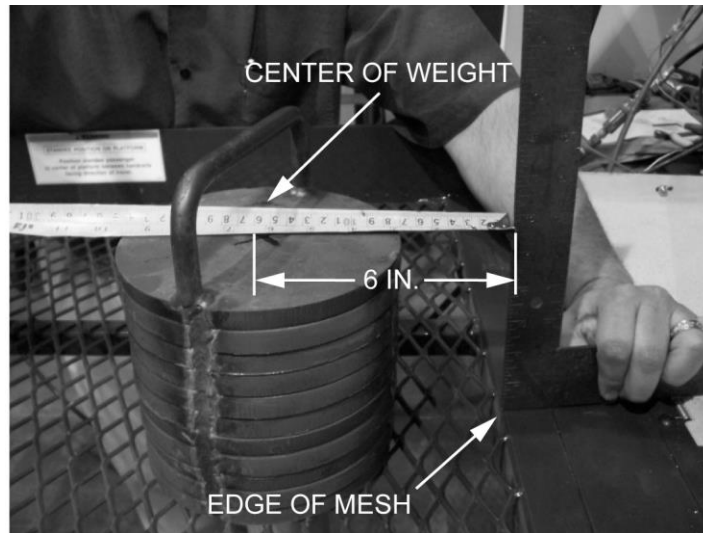

FIGURE 5
5. Refer to **FIGURE 5**. If alternate size of weight is to be used, the center of the weight must be 6 inches from the rear edge of the platform mesh.